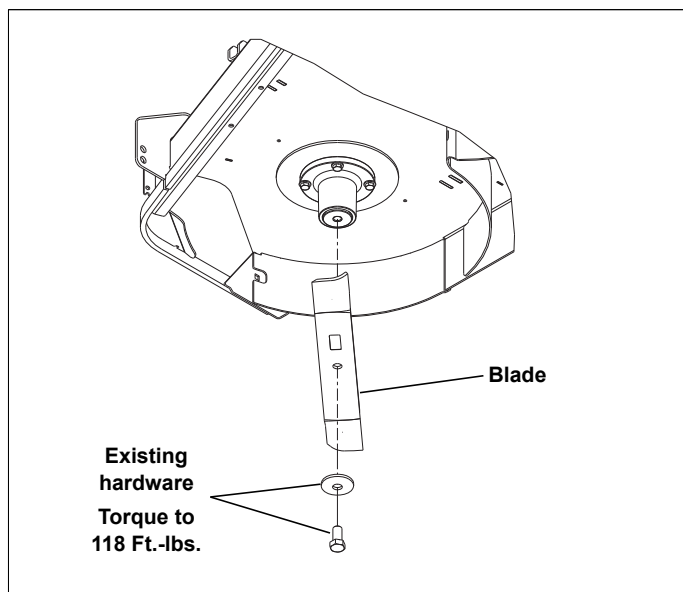

Figure 3-1
3. Remove the right side blade and replace it with the new blade. The catcher is provided with one blade for each deck size. Use the appropriate blade as indicated by the label on the blade and discard the other blades. Figure 3-1 **Torque blade bolt to 118 ft.-lbs. (160 N-m).**